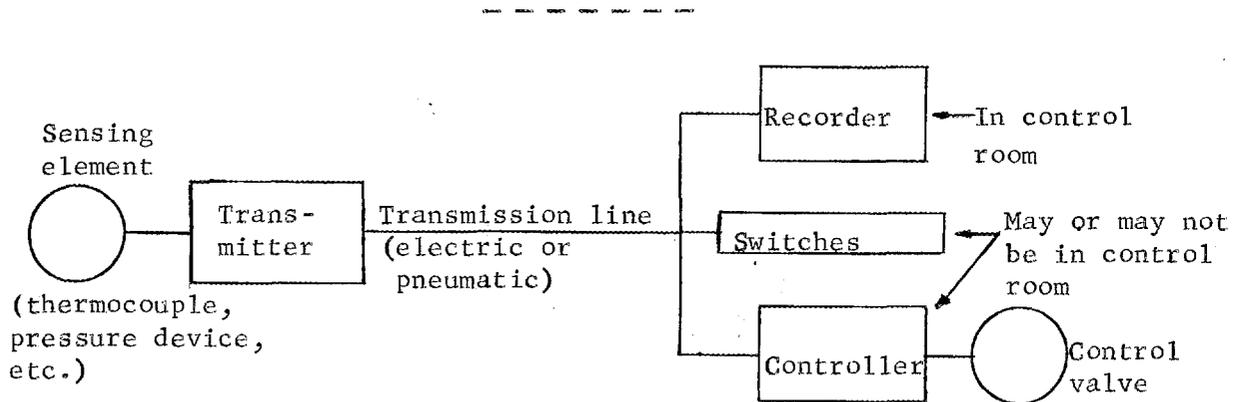

Fig. V-59. Block Diagram of a Process Instrument Channel
19. Figure V-59 is a block diagram of a typical circuit for remote display (such, as in the control room) of process information.